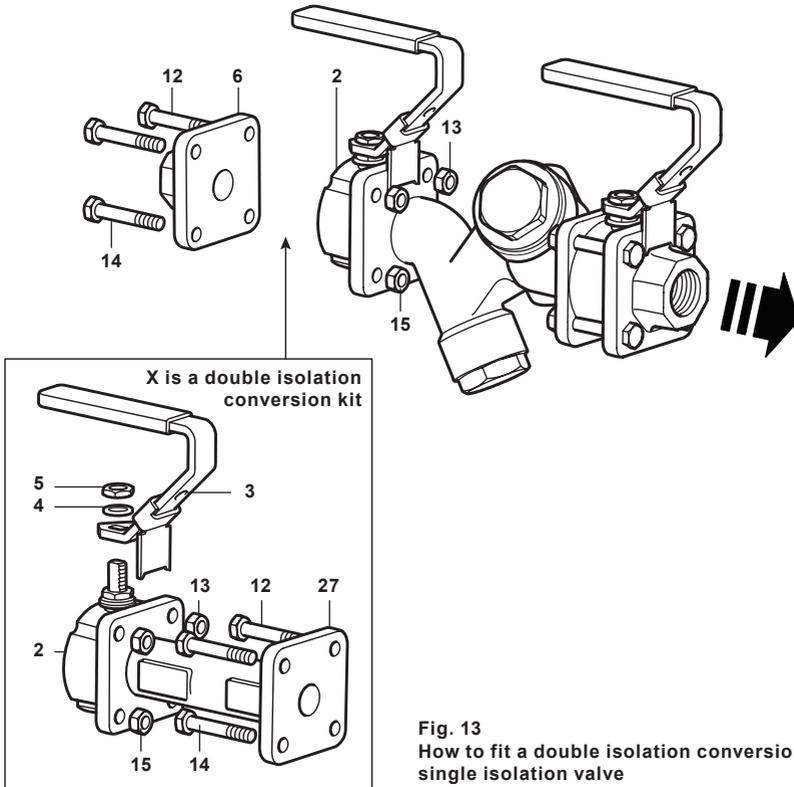

Fig. 13
5.8 How to fit a conversion kit (see Figures 13 and 14)
- Remove the bolts/studs and nuts (12 + 13) and remove the end cap (6).
- Loosely assemble the existing end cap (6) to the other end of the spool piece (27 or 28) using the new nuts supplied with the conversion kit in combination with the existing bolts/studs (12 + 13 and 14 + 15), allowing enough gap to slide in the new ball valve and body assembly (2).
- Slide in the new ball valve and body assembly (2) between the spool piece (27) and end cap (6) and tighten the bolts/studs and nuts (12 + 13 and 14 + 15) to the recommended torque (see Table 3).
- Fit the new handle(s) (3) onto the spindle of the new ball valve(s) assembly (2), ensuring it is in the correct orientation and secure in place by fitting the washer and nut (4 + 5) and tighten firmly.